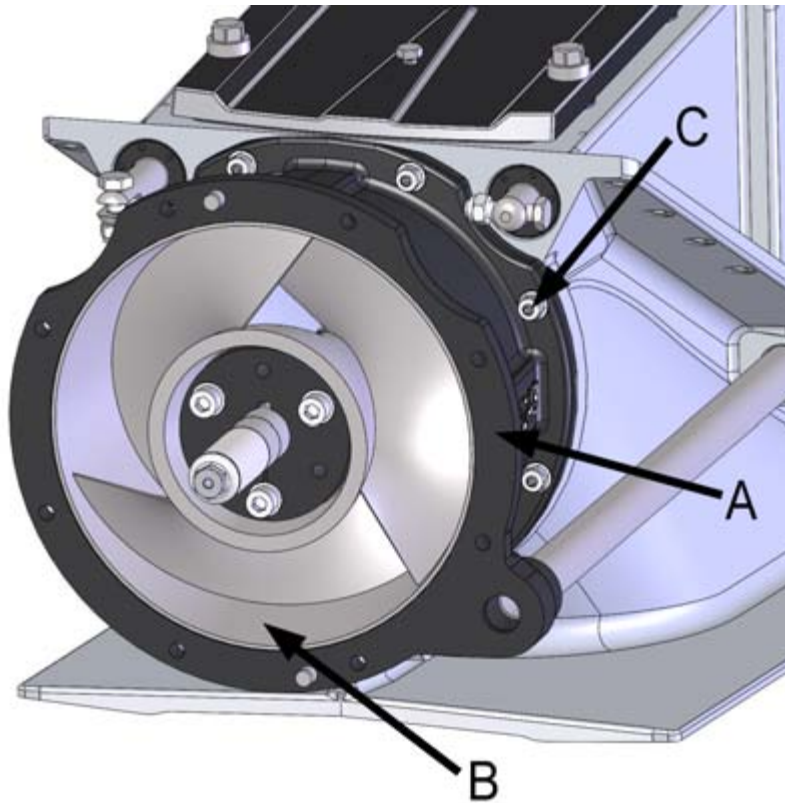

Figure 43. Impeller duct
This should be done by placing a feeler gauge between the impeller blade and wall (figure 43). It is enough for the feeler gauge to be in the position of a single blade; the rest can touch the duct wall.
The impeller spins in a duct with an aluminium exterior surface (figure 43, point A) and inner ring made of acid-proof steel (figure 43, point B). The inner ring is not an actual wearing part as the cone shape enables the impeller to be adjusted more deeply, in order to maintain a small clearance. However, if the ring is damaged, the entire duct can be replaced.
3. Open the duct fastening nuts (8 pcs, figure 43, point C).